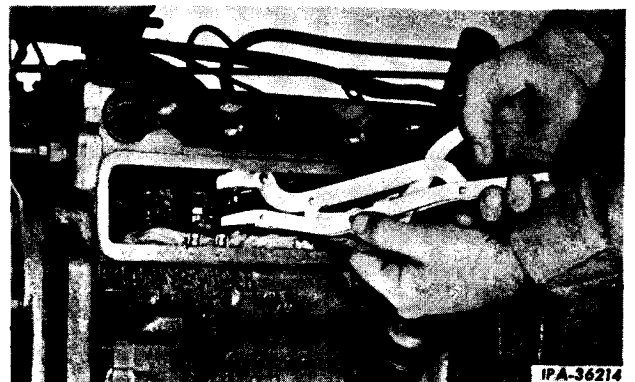

Fig. 17 - Removing Valve Spring Seat Retaining Keys.
2. Compress the valve springs with a suitable compressor and remove the valve spring seat retainers (Fig. 17).